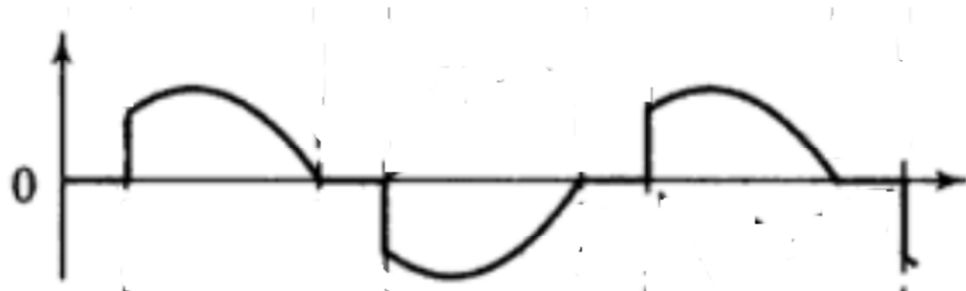

Figure 12.6: Output Waveform of Phase Controlled Single Phase AC Voltage Controller
- Now adjust the potentiometer by observing the output waveform, there should be a waveform at the output (not a straight line) as shown in the Figure 12.6.